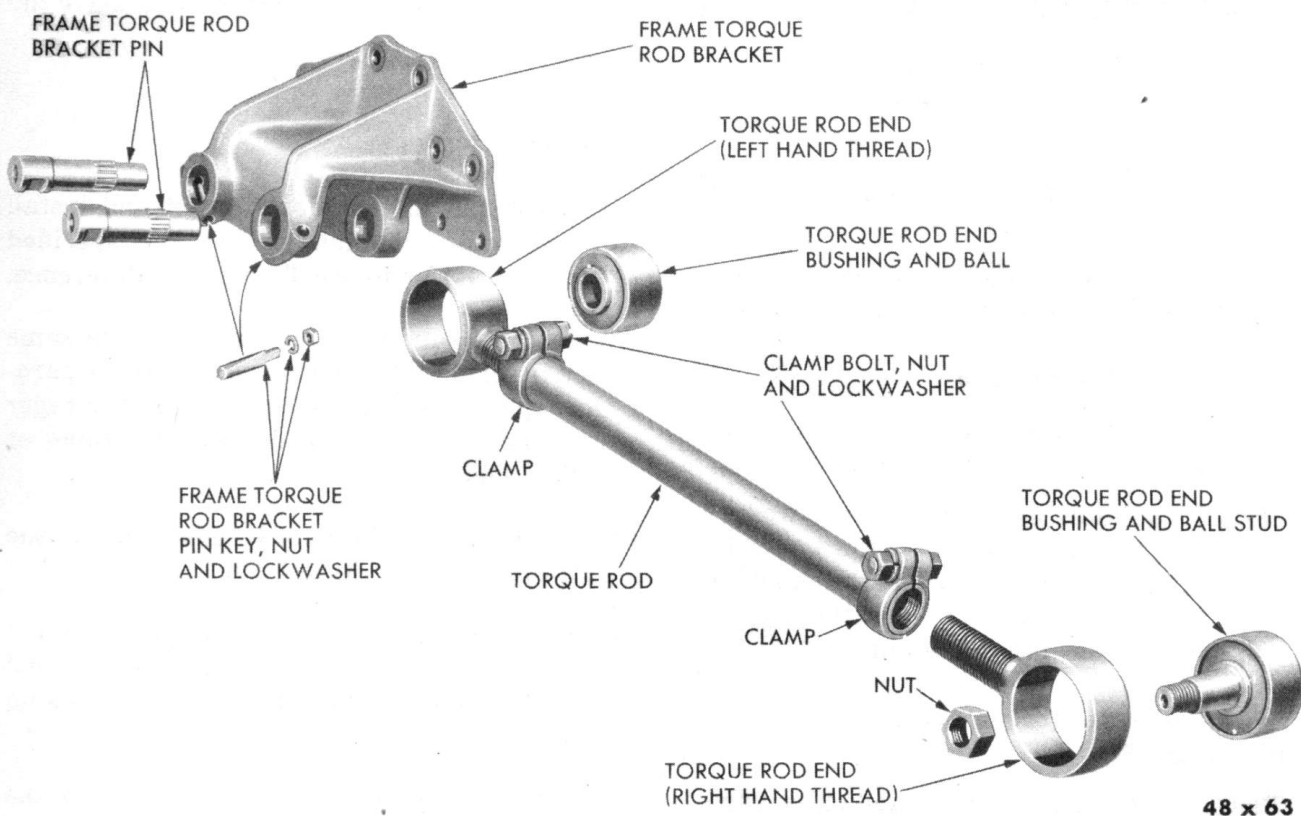

Fig. 137—Axle, Upper Torque Rod (Disassembled)
112. REMOVAL AND INSTALLATION OF UPPER TORQUE RODS (FIG. 137)
- (1) Remove nut, lock washer and pin key. Refer to Figure 137.